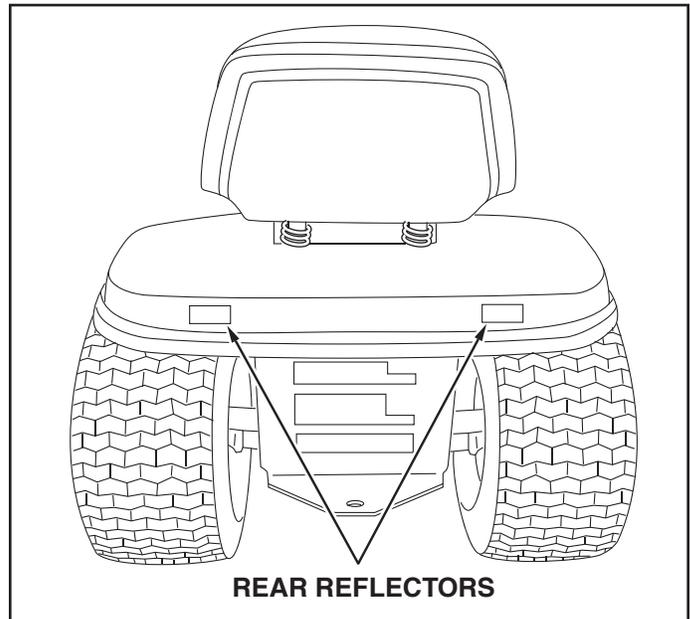

FIGURE 33
13. If your tractor is not equipped with rear reflectors, assemble the supplied rear reflectors to the rear fender. Place the reflectors as close to the bottom of the fender and as far apart as the shape of the fender will allow. See figure 33.